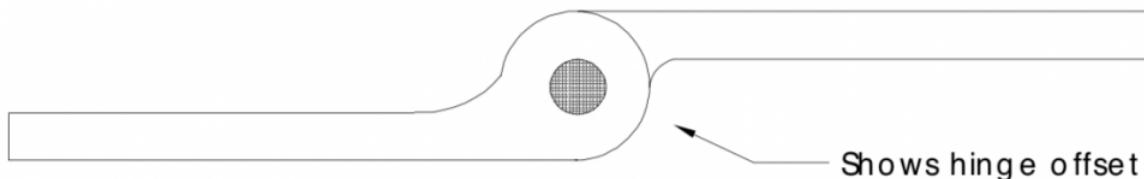

Figure 2-44. Aileron Hinge Offset
- ___ Find the 6' section of aileron hinge provided with the kit. Remove the hinge pin, reverse the halves to offset the hinge as shown in Figure 2-44 and replace the pin.